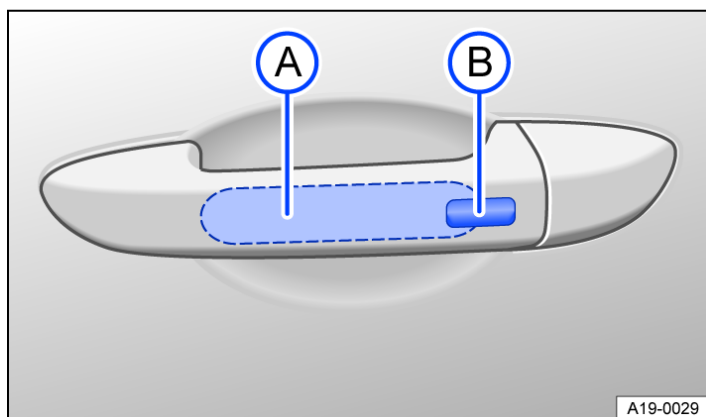

Fig. 2 In the door handle: sensors.
- Touch the sensor surface → Fig. 2 **A** on the inside of the driver or front passenger door handle.
- Touch sensor → Fig. 2 **B** on the outside of the driver or front passenger door handle.
- Then touch the sensor on the outside of the door handle → Fig. 2  once within five seconds. Do not put your hand around the door handle when doing this.
- Place a finger on the sensor of the driver's or front passenger door handle → Fig. 2  for a few seconds.